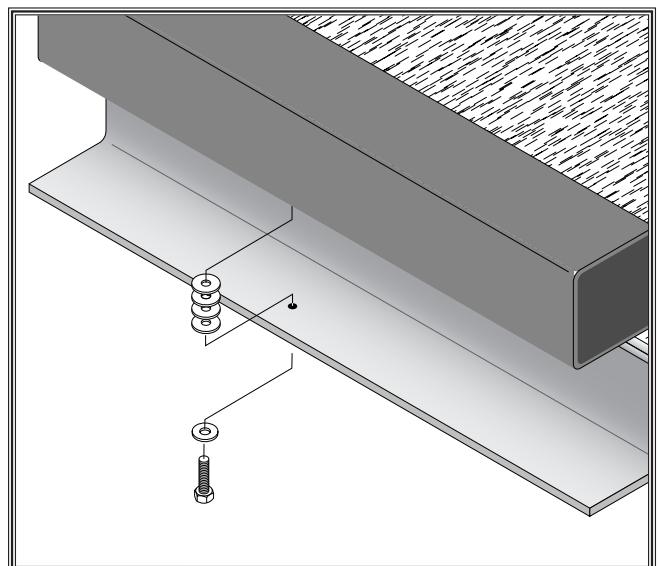

Figure 4. Shimming the front tube.
3. If your table has a beveled front edge, it may be necessary to install spacers or shims between the rail and the rectangular tube as shown in **Figure 4**. The spacers should equal approximately the height of the bevel (3/8" on most saws). Four to six washers installed with each of the four attachment screws should raise the height of the tube enough to assure clearance of the fence above the table surface.